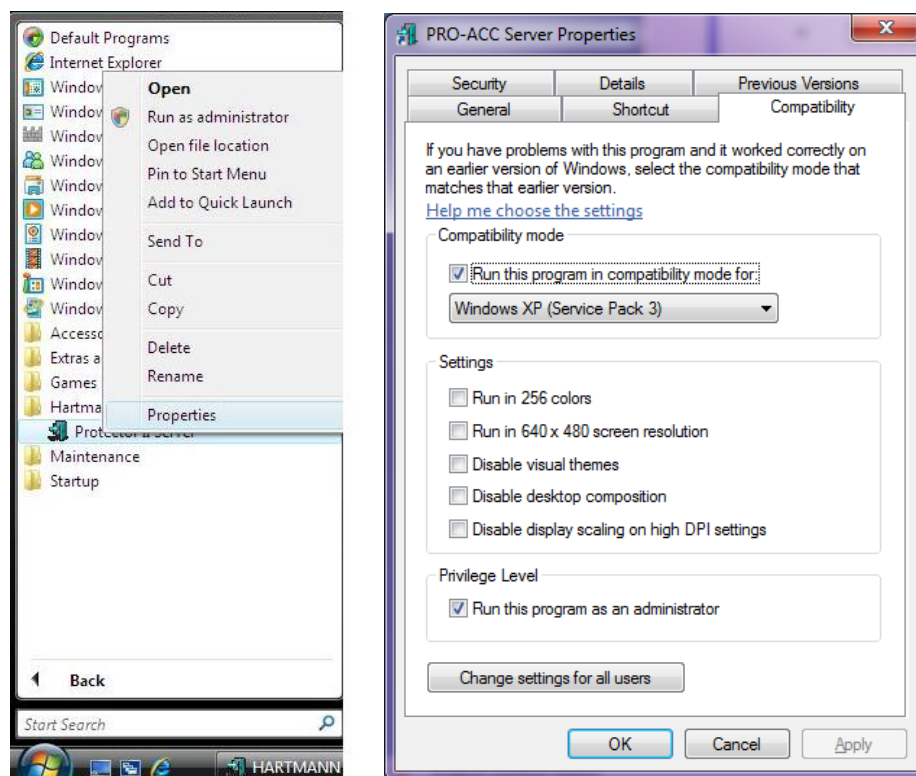

Figure 19
- After you have run the installation via the Hartmann Controls DVD or Hartmann Web Site download, you should find a '**Hartmann Controls Corp**' menu in **All Programs** directory. Right click on PRO-ACC Server and select **Properties** as shown. (Figure 19)